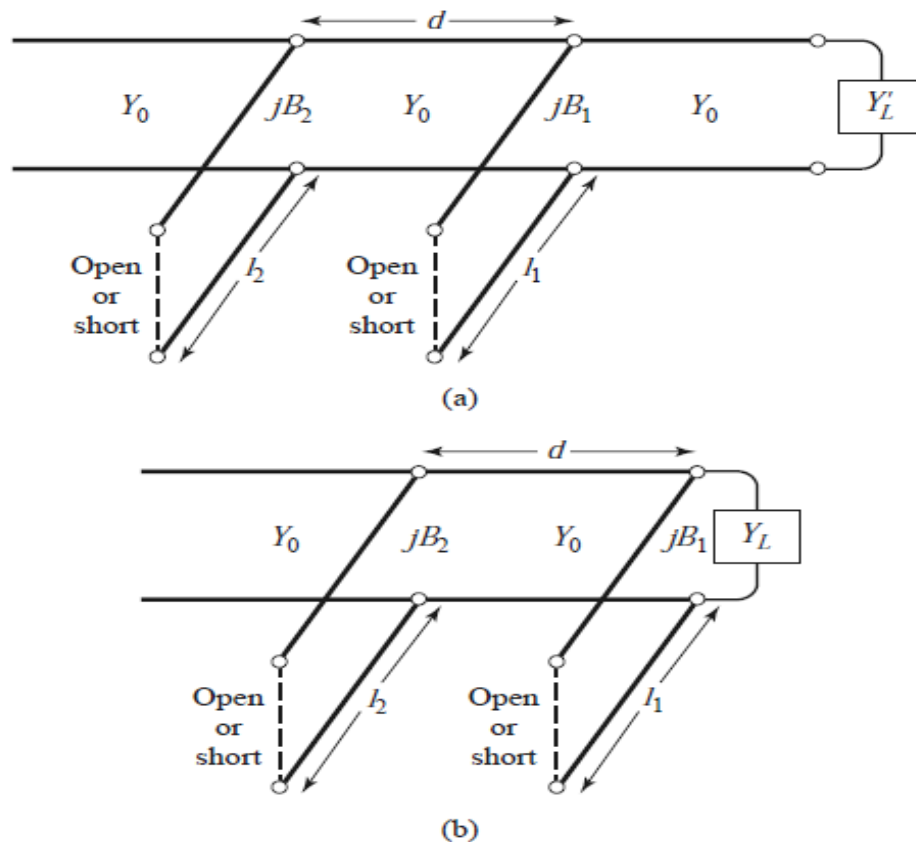

Figure 4
- The shunt stubs shown in Figure 4 can be conveniently implemented for some types of transmission lines, while series stubs are more appropriate for other types of lines.